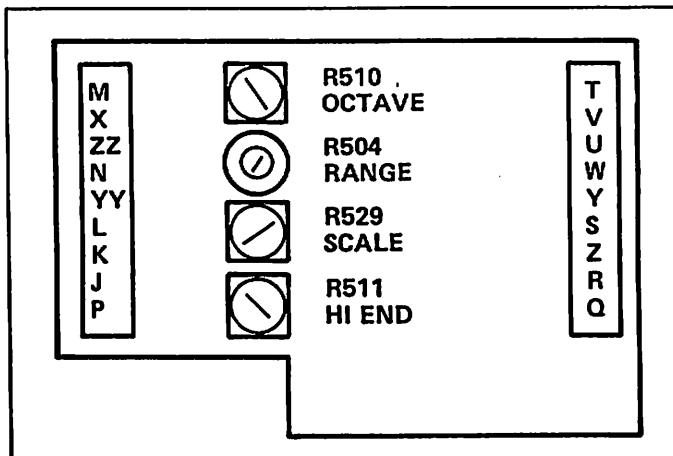

FIGURE 4-5 OSCILLATOR B TRIMPOT LOCATIONS
a) Zero beat oscillator B with oscillator A using range trimpot R504, Figure 4-5 (oscillator B will be 1 octave lower than oscillator A).
b) Hold down highest B_b key and zero beat oscillator B with oscillator A using scale trimpot R529, Figure 4-5 (oscillator B one octave below oscillator A).
a) Zero beat oscillator B with oscillator A using range trimpot R504, Figure 4-5 (oscillators A and B in unison).
b) Hold down highest B_b key and zero beat oscillator B with oscillator A using high end trimpot R511, Figure 4-5 (oscillators A and B in unison). Repeat steps a and b several times.
b) Set "B" PITCH control fully clockwise to 10 and zero beat oscillator B with oscillator A using octave trimpot R510, Figure 4-5 (oscillator B one octave above oscillator A).